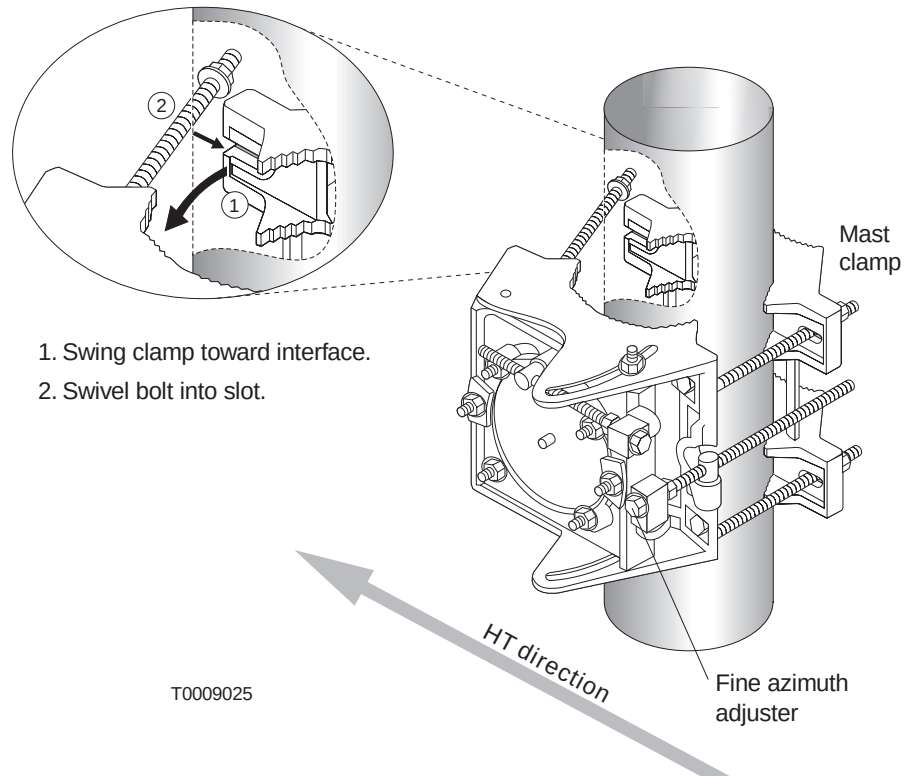

Figure 6-7 Installing the antenna mount
3. Place the mount on the mast, as shown in figure 6-7.
The fine azimuth adjuster must be on the side of the mount opposite the HT direction, as illustrated in figure 6-7. This allows you to make azimuth and elevation adjustments from behind the antenna, so you can stay out of the beam area.
4. Swing the clamp toward the interface until you can “capture” the clamp by swiveling the free-swinging bolts into the two slots in the clamp, as shown in figure 6-7.